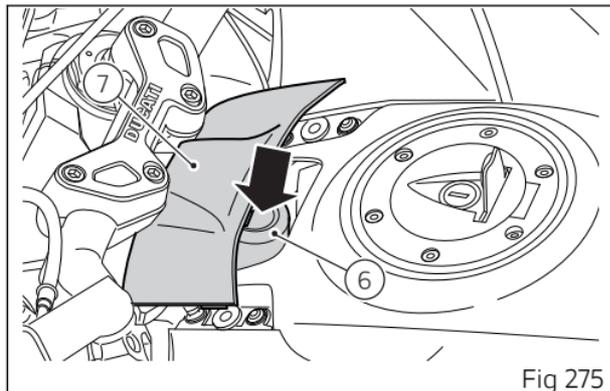
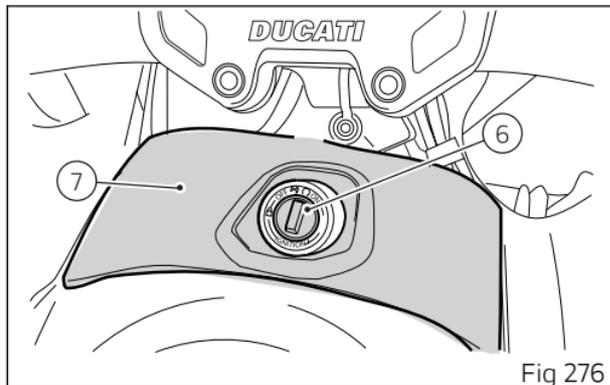
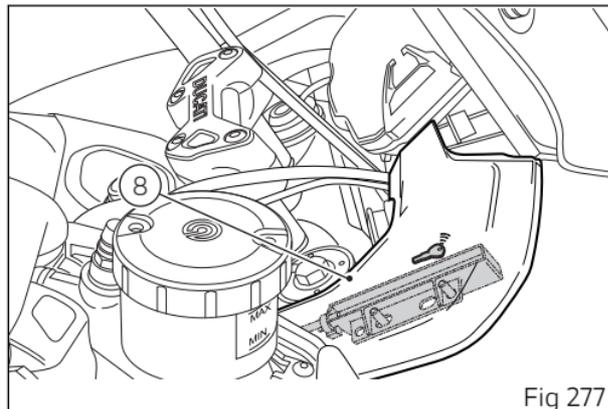

Fig 275
Fig 276
Fig 277
(Fig 275) indicates the position of the Hands Free unit (6), with protection lid (7) and (Fig 276) indicates the position of the Hands Free unit (6) for the US version, while (Fig 277) indicates the position of the antenna (8).